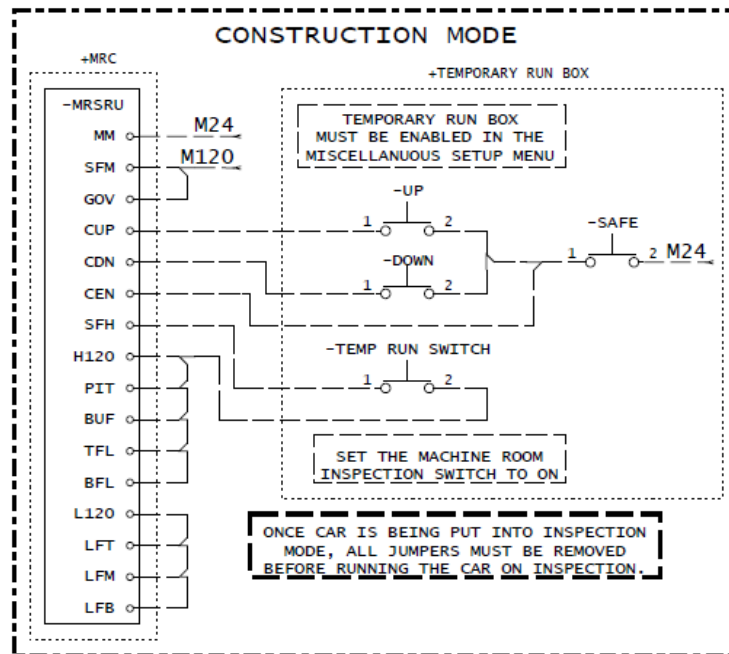

Figure 77: Construction Mode Connections on HEV Controller
4. Wire temporary run box according to Figure 77 for construction mode.
6. On the User Interface (UI):